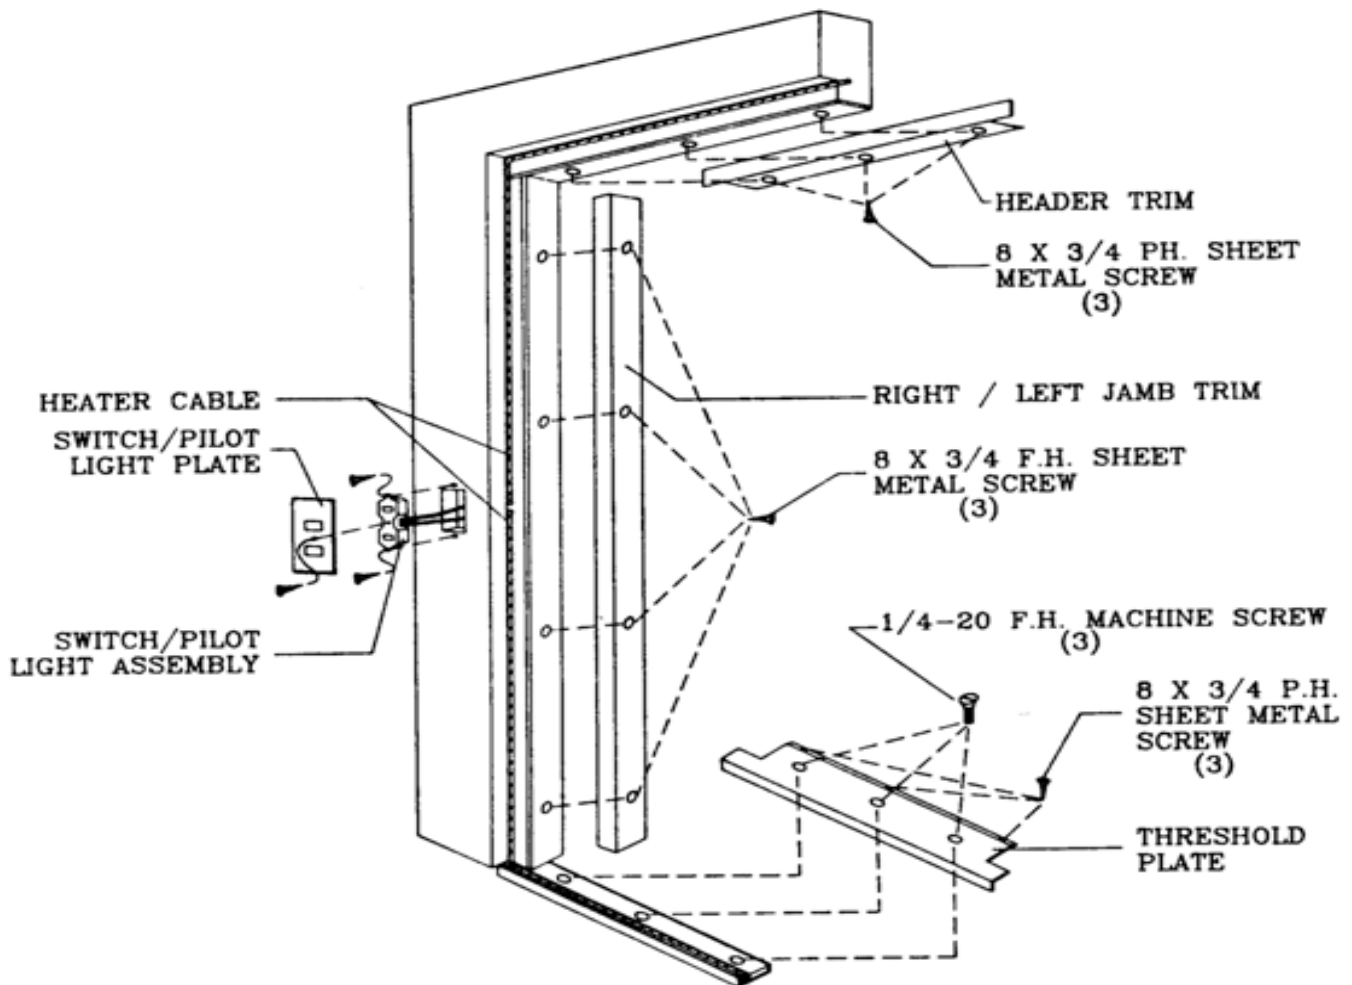

FIGURE 32 - DOOR FRAME HEATER WIRE REPLACEMENT
1. Using Figure 32, page 19, as a reference, remove the switch/pilot light cover plate and switch/pilot light assembly.